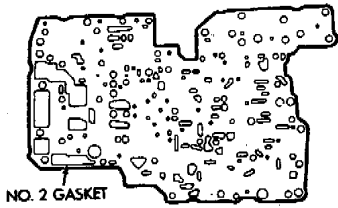

Fig. 2 Valve Body Gasket No. 2
- (2) Position valve body plate on No. 1 gasket.
- (3) Position new No. 2 gasket (Fig. 2) on valve body plate and align gaskets and plate using bolt holes as guides.